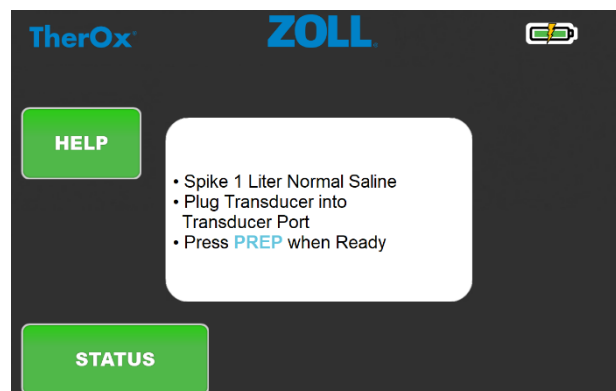

Figure 10. Prep Screen
6. Insert the cartridge, ensuring proper alignment, then close and latch the compartment door. Verify IV tube is not restricted when door is closed. Once the cartridge has been loaded and the door closed, the screen shown in **Figure 10** appears: